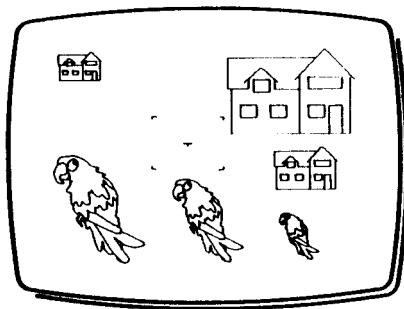

Fig 2
- 3 Press and release **T**. You now have a **COPY** cursor, with full functions, carrying a duplicate of the chosen library unit (Fig 2).